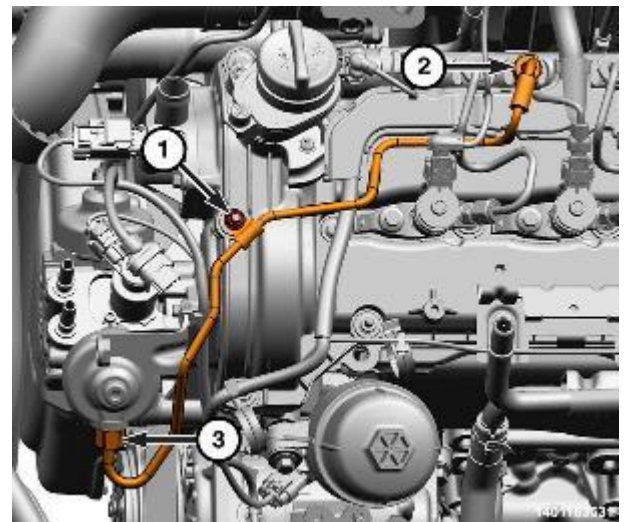

Figure 117 – Left High Pressure Fuel Tube Nut
48. Remove the left fuel tube bracket nut (1) securing the fuel tube (Figure 117).
49. Unscrew the union nut (2) from the fuel rail and remove and discard the fuel tube (Figure 117).